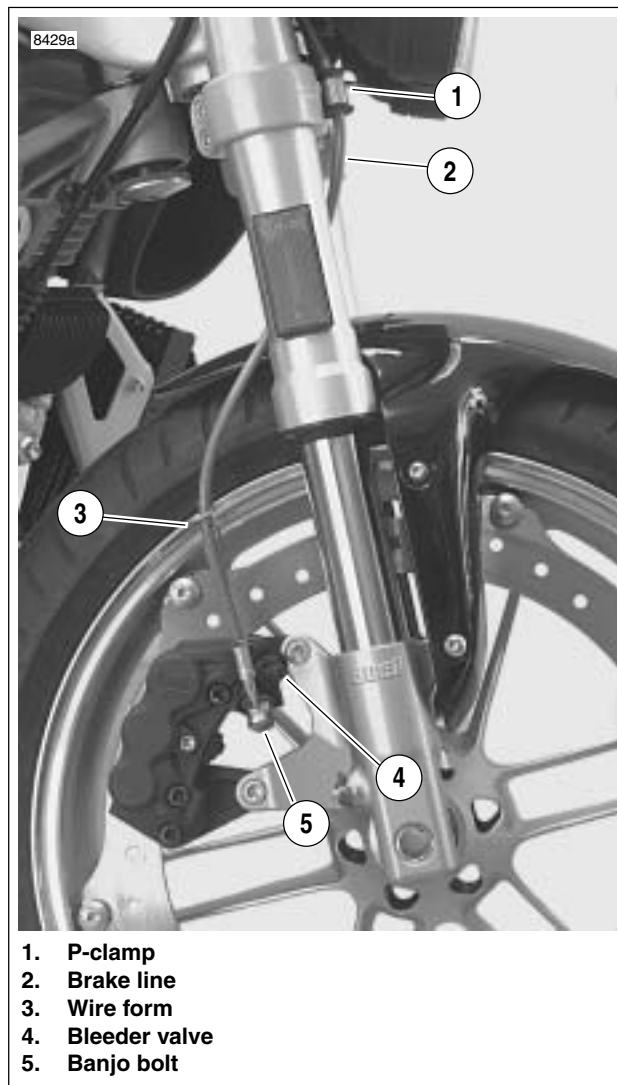

Figure 2-43. Front Brake Line
- a. See Figure 2-43. Install **new** copper washer, brake line (2), **new** copper washer and wire form (3) onto banjo bolt (5).
- b. Finger tighten banjo bolt (5) onto front caliper being careful not to pinch wire form (3) while tightening, wire form should rotate around banjo bolt freely.
- c. Twist brake line (2) into wire form (3) spiral and clock wire form against bleeder valve (4).
5. Install and tighten p-clamp with fastener (1) on lower triple clamp to 36-60 **in-lbs** (4-7 Nm).
7. See Figure 2-43. Tighten brake caliper banjo bolt (5) (metric) to 16-20 ft-lbs (22-27 Nm).